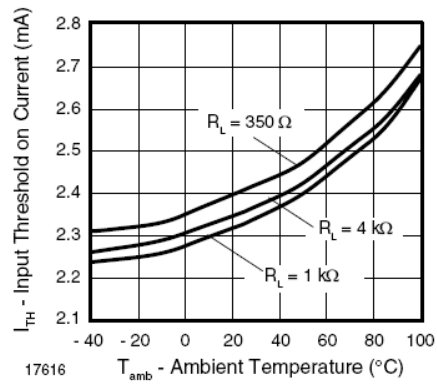

Fig. 8 - Input Threshold on Current vs. Ambient Temperature
- The normalized I_{TH} @100 °C is 113 % (ref. Fig. 8)